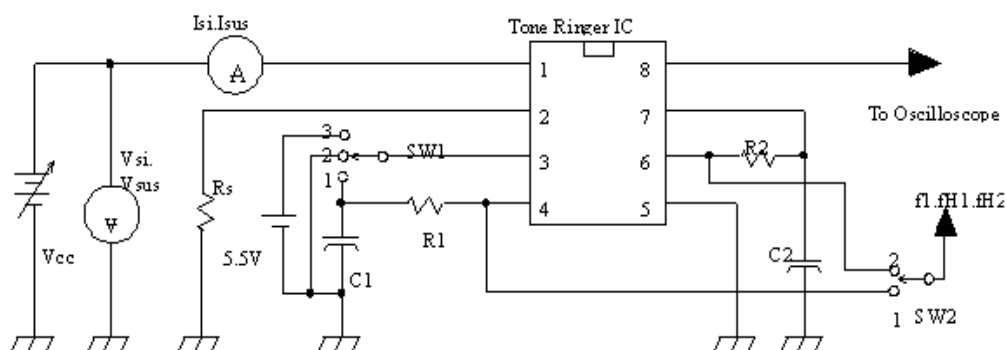

Figure 3. Test Circuit (2)
- Ringing start voltage is the value of AC supply voltage required to start the tone ringer ringing in FIG.3
The supply current drawn prior to triggering varies inversely with RSL, decreasing for increasing value of resistance. Thus, increasing the value of RSL will decrease the amount of AC ringing current required to trigger the device. As such, longer subscriber loops are possible since less voltage is dropped per unit length of loop wire due to the lower current level. RSL can also be used to compensate for smaller AC couplin capacitors (C5 on Fig 3) (higher impedance) to the line which can be used to alter the ringer equivalence number of a tone ringer circuit.